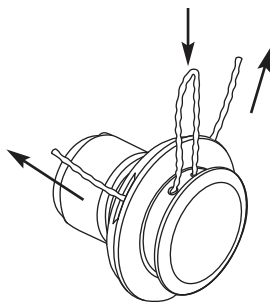

Fig. 24
2. Push the bend in the line until the ends of the line push through the positioning tunnels (Fig. 24).